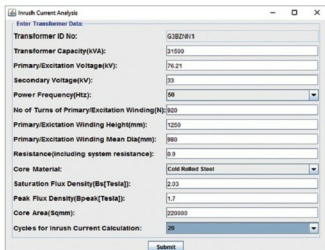

Fig. 5. Inrush current calculation
13. **Cycles for Inrush Current Calculation.** From drop-down menu, select the number of cycles for which inrush current is to be calculated and plotted. The number of cycles may be selected between 5 and 50. This window is shown in Fig. 5.